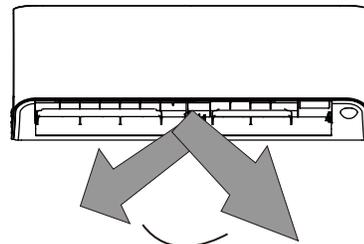

Fig. 15 Right - Left Louver Position
1. Press **SWING ↔** (right-left airflow) on the remote control once to activate the louver. Every time you press **SWING ↔** (right-left airflow), the louver adjusts by 6 degrees. Press **SWING ↔** until the preferred direction is reached (see Fig. 15).